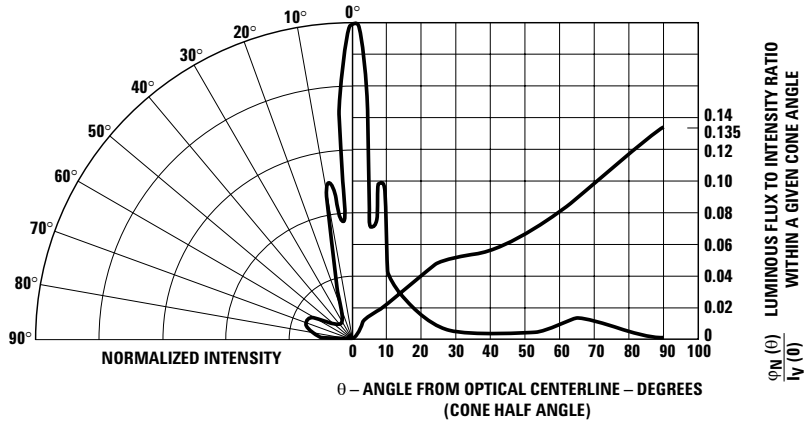

Figure 7. Relative luminous intensity vs. angular displacement.
3. The approximate total luminous flux output within a cone angle of  $2\theta$  about the optical axis,  $\phi_v(2\theta)$ , may be obtained from the following formula:  $\phi_v(2\theta) = [\phi_v(\theta)/I_v(0)]I_v$ ; Where:  $\phi_v(\theta)/I_v(0)$  is obtained from Figure 7.